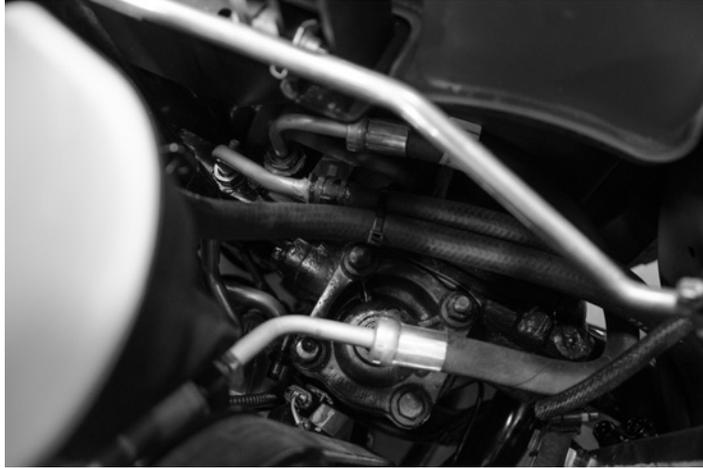

Figure 39
11. Cut the hose and then install the hoses for the power steering lines (fig 39).